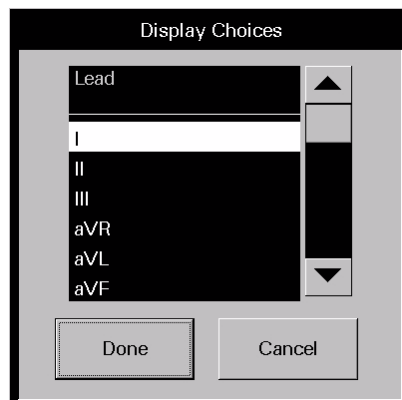

FIGURE 8-10 Display Choices Dialog Box
1. From the **Disclosure** tab, select the **Display Choices** sidebar button. The Display Choices dialog box is displayed (shown in FIGURE 8-10).